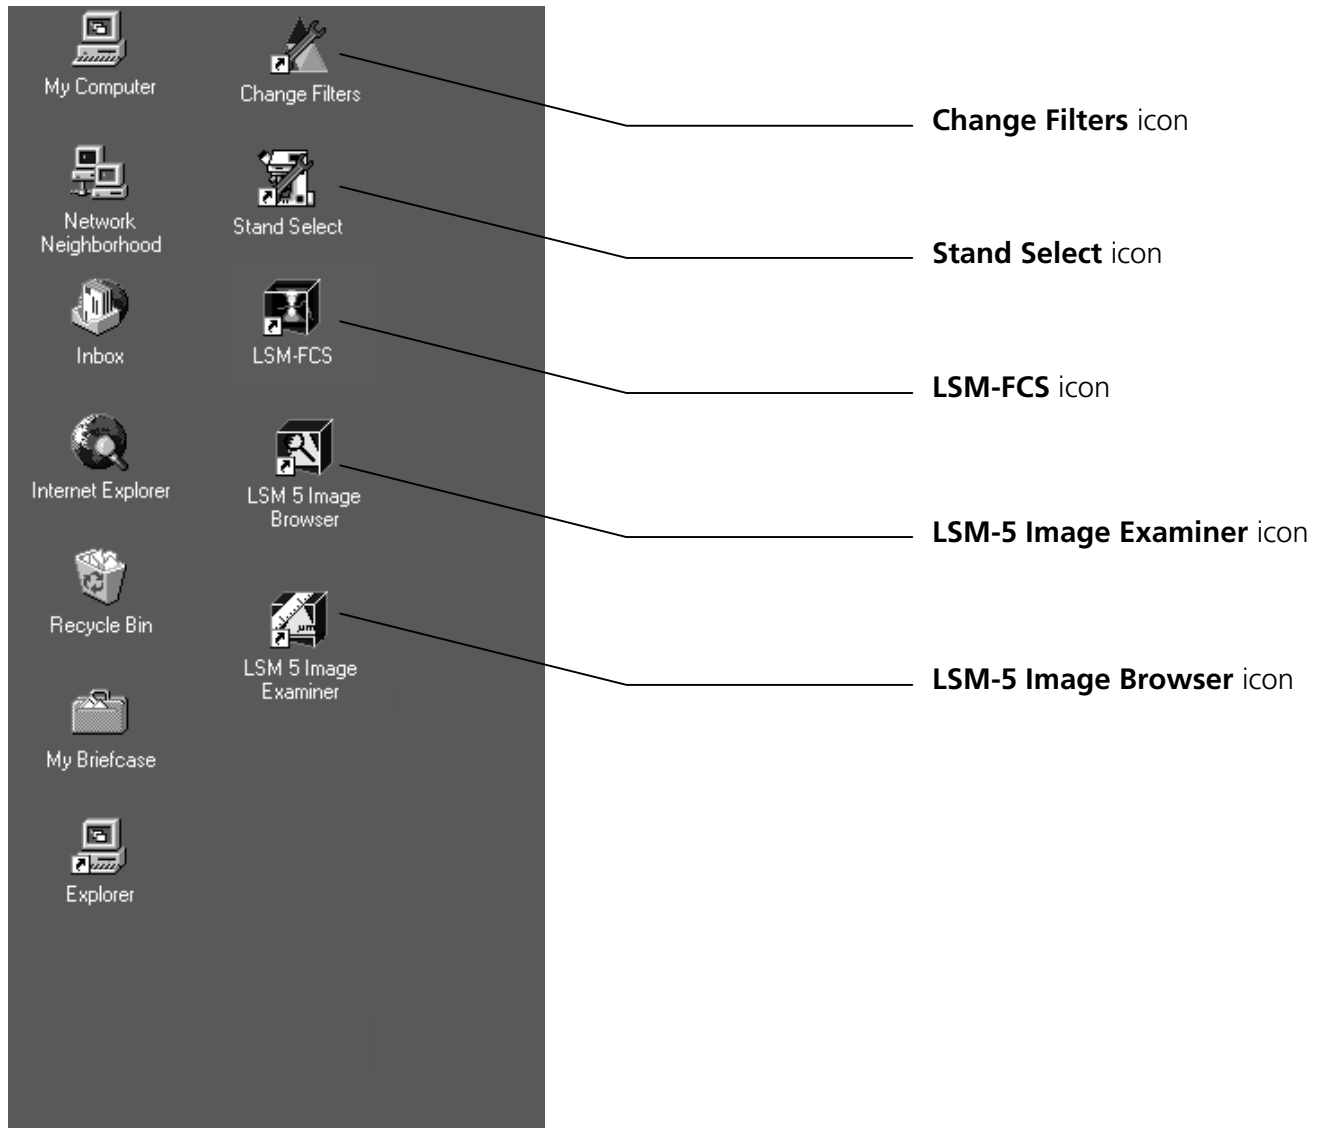

Fig. 4-5 WINDOWS NT operating system desktop
- Double-click on the **LSM-FCS** icon on the desktop of WINDOWS to start the LSM-FCS software program (see Fig. 4-5).